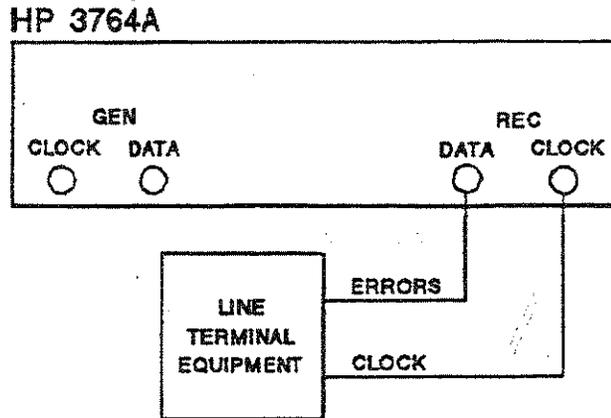

Figure 2-2. Measurement of External Errors
2. Connect up the equipment as shown in Figure 2-2.